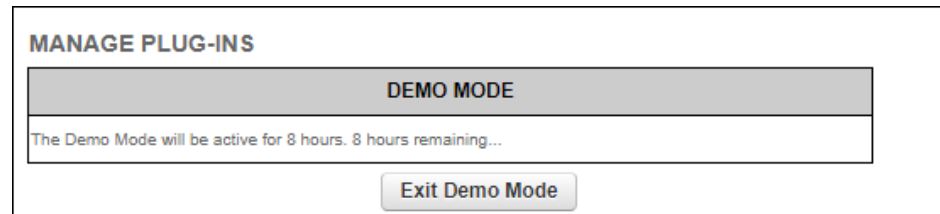

Figure 50. MANAGE PLUG-INS dialog (Demo Mode activated)
- The **Demo Mode** activation dialog will be shown (Figure 50 \(page 94\)). A countdown timer shows how much Demo time remains.